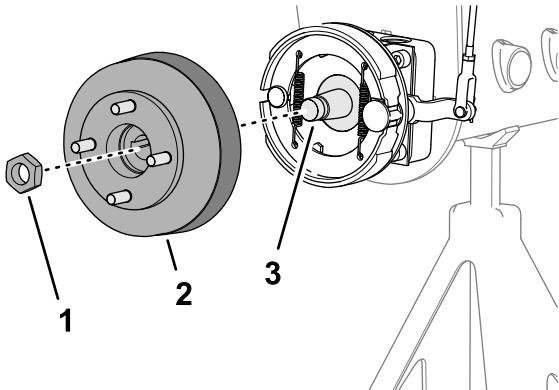
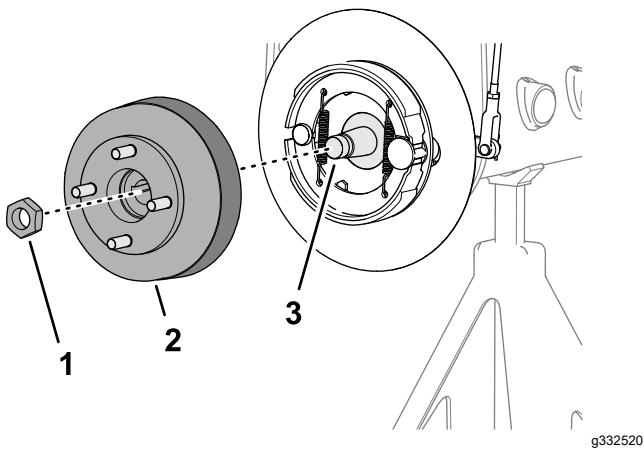

Figure 64
Figure 65
1. Remove the locknut that secures the hub to the wheel-motor shaft (Figure 64 or Figure 65).
4. Use the specified wheel hub puller to remove wheel hub and brake drum from the wheel-motor shaft (Figure 64 or Figure 65).